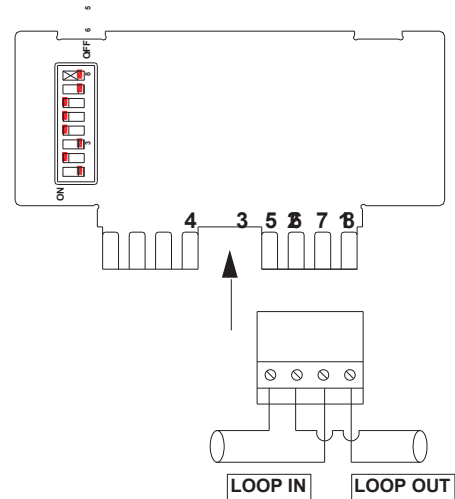

Fig. 2: wiring connections
2. Connect the conductors to the terminals as shown in Fig. 2.